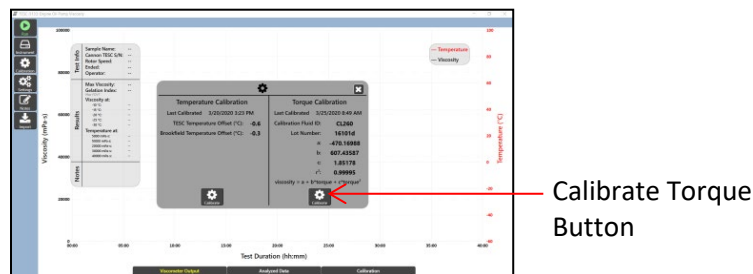

Figure 54: Calibrate Display Window
2. Press the **Calibrate** button in the Torque Calibration section of the software display window. Refer to Figure 54.